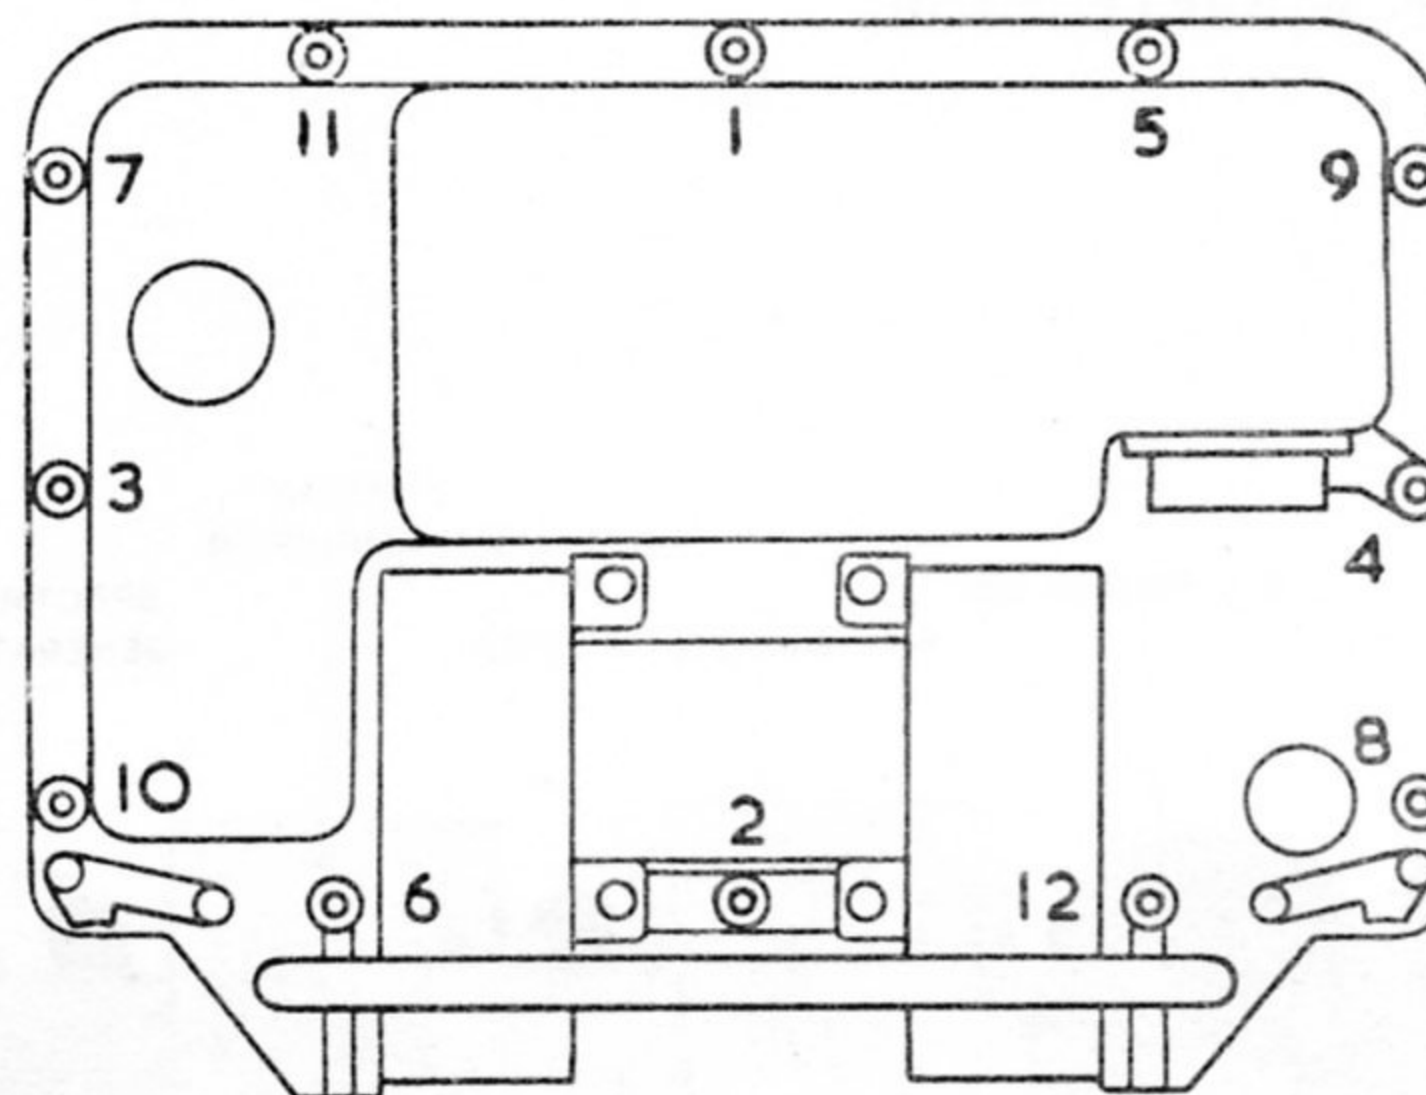

Fig. 1 Order of loosening and tightening the cover securing screws.
7. Release the pressure, then use hexagon key No. 8 (part of maintenance kit 5180-99-943-1512) to unscrew the twelve hexagon socket-head screws securing the front panel to the cover assembly. Release each screw, a half-turn at a time, in the order shown in fig.1, until all are loose; the front panel or cover may be distorted if this procedure is not adopted. Stand the transmitter-receiver upright on its front panel, lift off the cover assembly and then place the chassis assembly on its base or side as convenient.